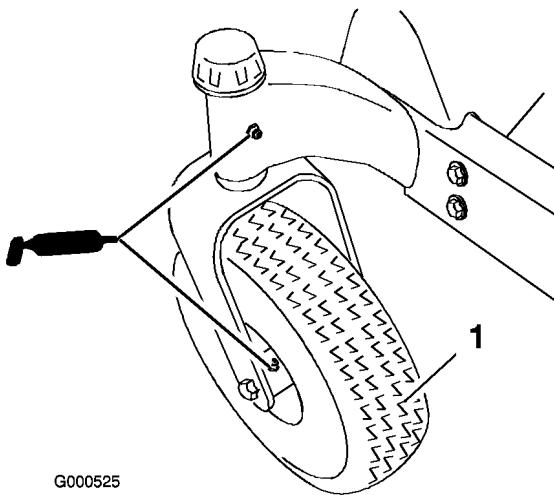
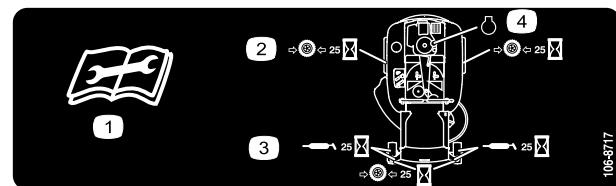

Figure 19
Figure 20
3. Clean the grease fittings (Figure 19 and Figure 20) with a rag. Make sure to scrape any paint off of the front of the fitting(s).
4. Connect a grease gun to each fitting (Figure 19 and Figure 20). Pump grease into the fittings until grease begins to ooze out of the bearings.
Grease the front caster pivots and wheels (Figure 19).